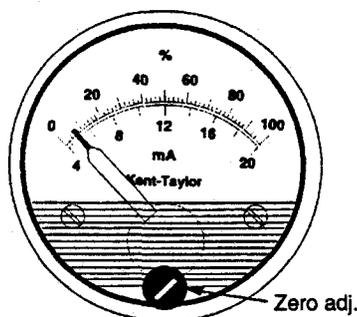

Fig. 1 - Analog meter adj.
The calibration of the analog type meter, only involves zeroing. Fig. 1 shows the location of the zero adjustment.
- with the loop unpowered adjust the zero screw to read exactly the **true zero** mark on the scale (Fig. 1).